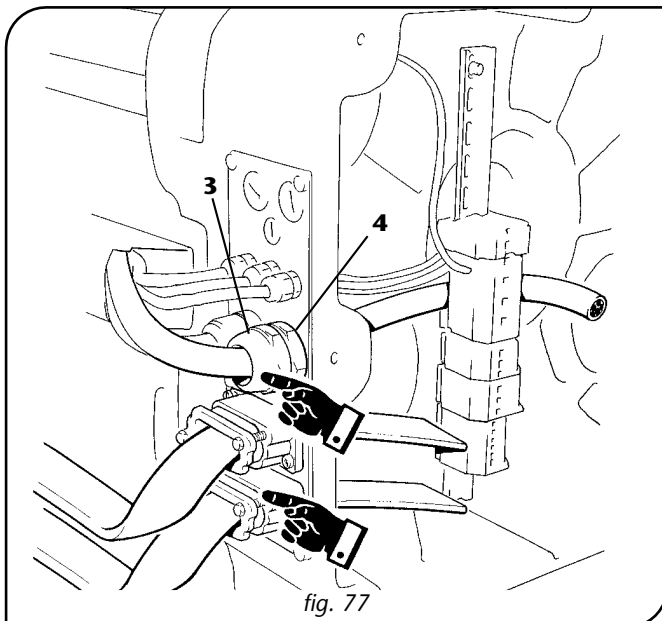

fig. 77
4. Loosen the rings -3- of the cable clamps -4- for round cables and put the related conductors in the cable clamps. Loosen the screws of the cable clamps for flat cables and put the related flat cables in the cable clamps. Tighten completely all the rings of the round cable clamps and the screws of the flat cable clamps (fig. 77).